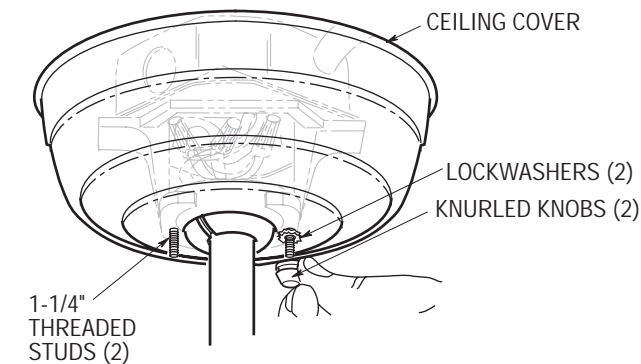

Figure 21
- 5. Secure the ceiling cover in place by sliding lockwashers (supplied) over the threaded studs and installing the two knurled knobs (supplied). (Figure 21.) Tighten the knurled knobs securely until the ceiling cover fits snugly against the ceiling and the hole in the ceiling cover is clear of the downrod. Your fan is now wired to be turned on and off from the fan switch.